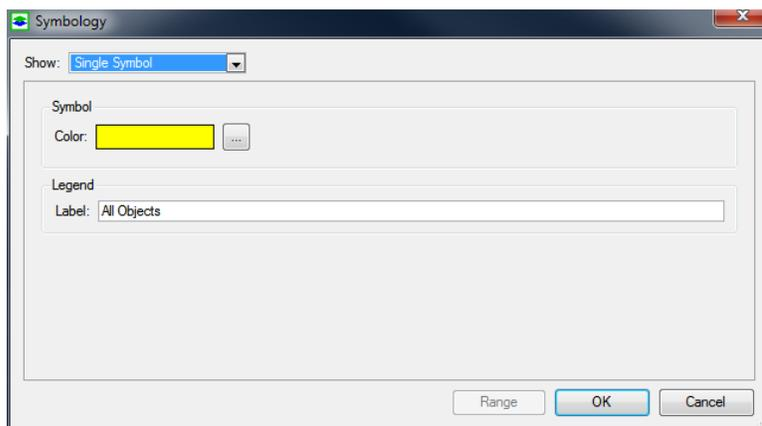

Figure 2.9. The Symbology Dialog Box Single Symbol Style
Shapefiles are associated with an attribute table that contains a number of value fields, and each field contains values for each shape in the shapefile. The Symbology dialog box (Figure 2.9) can be used to modify how these values are displayed. To open this dialog box, click on the  button of the *Colors* field in the Properties window of the Shapefile. Three color-mapping styles are available and can be selected using the Style dropdown box as described below. Once the color-mapping is defined, a legend identifies the features of displayed shapefile will be displayed below the selected shapefile in
1. *Single Symbol* (Figure 2.9): This is the default style and the easiest way to change the color of a shapefile.